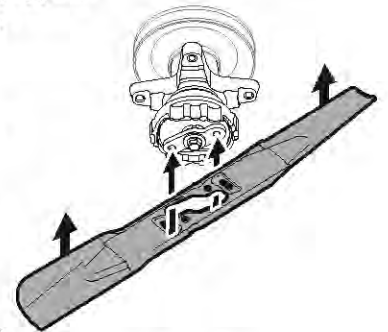

Figure 49
3. Position the blade under the spindle assembly, and carefully align the large opening in the center of the blade over the tractor blade retainer. See Figure 49.